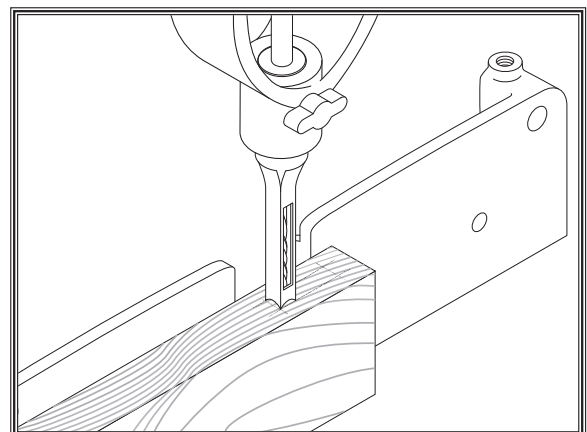

Figure 7. Aligning the chisel and marks.
5. Loosen the adjustable handles on the fence. Lower the chisel with the downfeed handles on the drill press and make adjustments to the fence until the marks on the workpiece are aligned with the chisel as in **Figure 7**. Tighten the adjustable handles. If the fence cannot be adjusted close enough, adjust the table on the drill press until the chisel and marks are aligned.